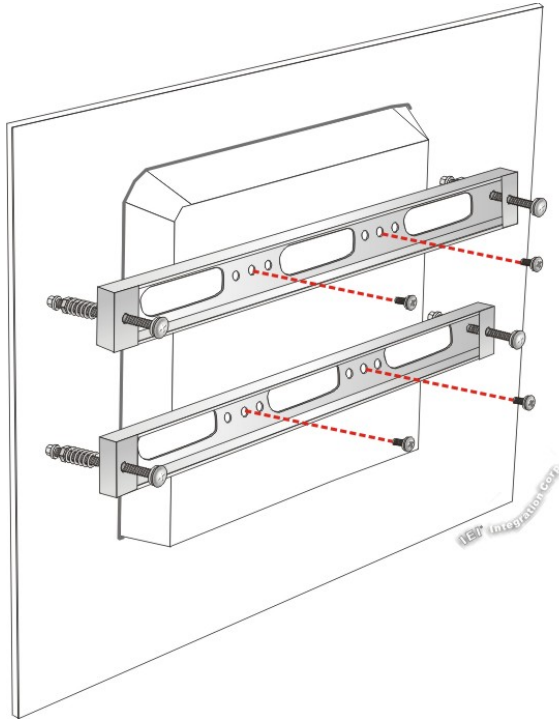

Figure 3-21: Securing Panel Mounting Brackets
- Step 7:** Secure the two panel mounting brackets to the rear of the panel PC by inserting the four retention screws into the VESA mounting holes and tightening them (Figure 3-21).